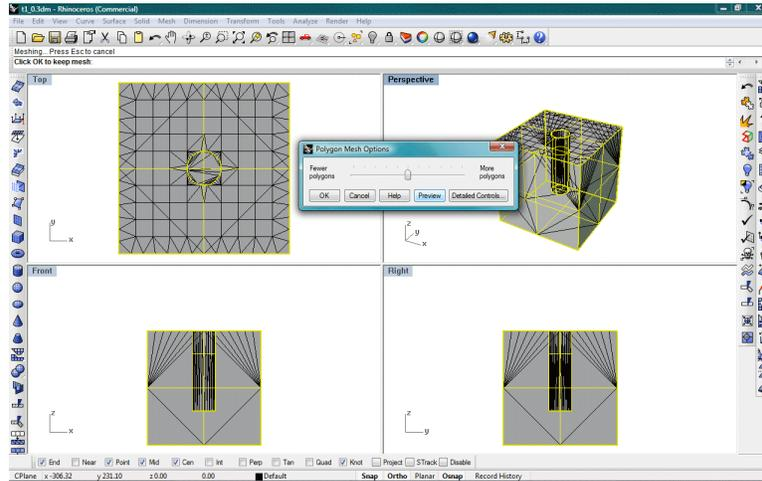

Figure 41: Preview of the surface mesh
- In the simplified dialog box, move the slider control to the **middle** and click on **Preview** to see what the resulting surface mesh will look like (Figure 41).